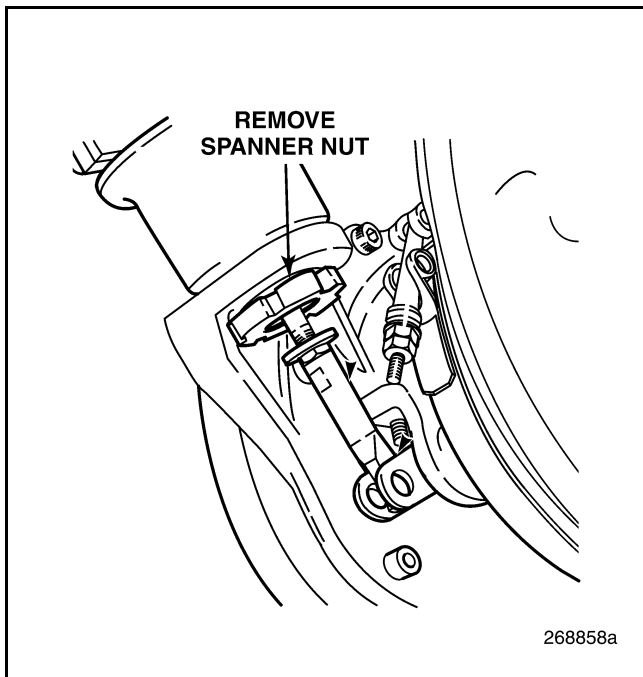

Figure 523 — Actuator Assembly Removal
8. Using spanner wrench J 47019, remove the spanner nut (Figure 523) that retains the actuator to the actuator mounting flange, then remove the actuator/position sensor/isolation plate assembly from the mounting flange.